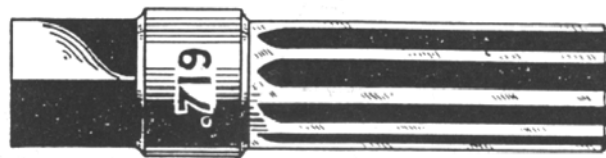

Fig. 3
**Air Adjustment Screw:** Inside of screw should be smooth. Clearance between plunger and shell should not exceed .006". Cases may be encountered in service where the air valve plunger sticks in the air valve screw due to the fact that there is not sufficient clearance between the plunger and screw. When this trouble occurs, the air valve screw should be reamed out with a special stub reamer .719" in diameter as shown in Fig. 3. Extreme care should be exercised when reaming out the air valve adjustment screw not to get the clearance too great between the inner surface of the screw and the air valve plunger.